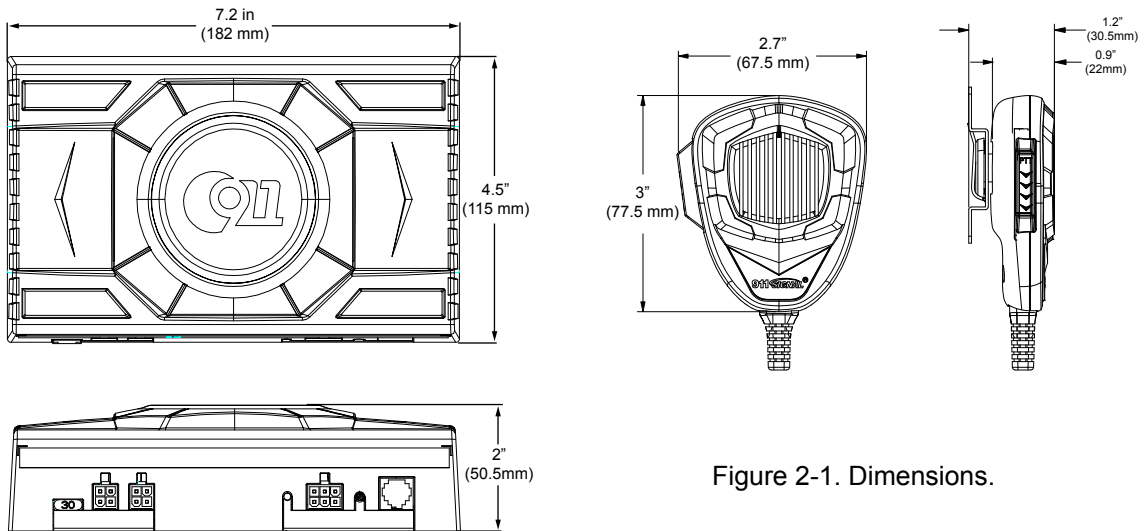

Figure 2-1. Dimensions.
2.1 Mounting Location Selection, See Figure 2-1 (Dimensions)